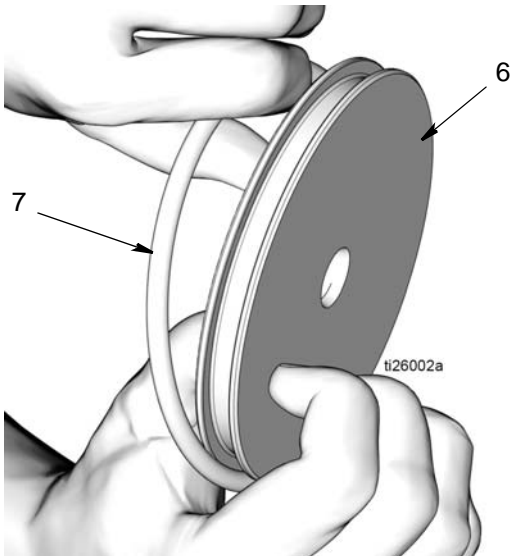

FIG. 22
- d. Remove o-ring (7) from piston (6) (FIG. 22).